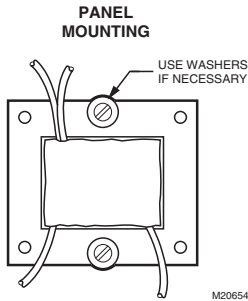

Fig. 1. Use bolts in slots for panel mounting.
- a. Use bolts in slots for direct mounting (Fig. 1).